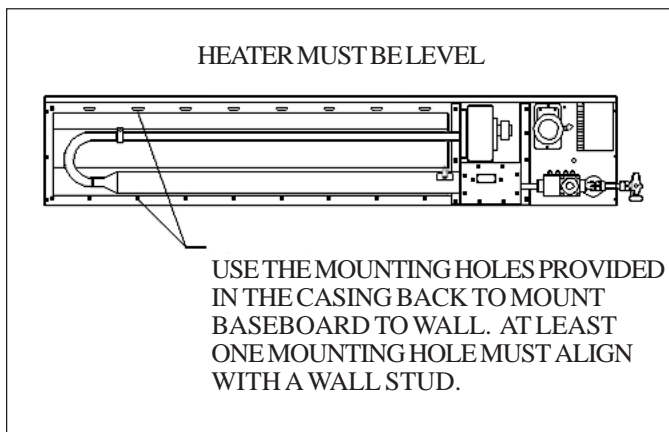

FIGURE 7
- h) Level and secure heater to wall with screws (not provided) through mounting holes in back of heater. Anchors (not provided) may be required. See Figure 7.